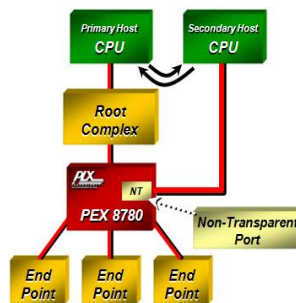

Figure 3: Non-Transparent Port
In Single-Host mode, the PEX8780 supports a **Non-Transparent (NT) Port**, which enables the implementation of **dual-host systems** for redundancy and host failover capability. The NT port allows systems to isolate host memory domains by presenting the processor subsystem as an endpoint rather than another memory system. Base address registers are used to translate addresses; doorbell registers are used to send interrupts between the address domains; and scratchpad registers (accessible by both CPUs) allow inter-processor communication (see Figure 3).